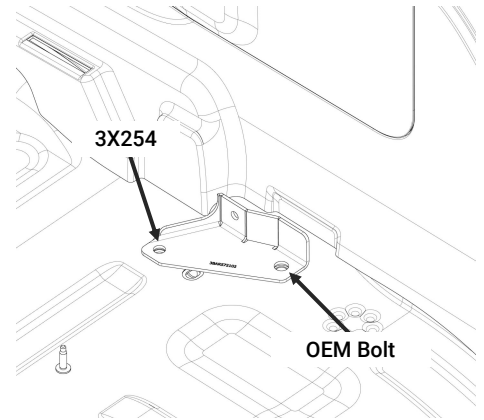

Figure 2
- C. Start the OEM bolt removed in step A. back into the hole it was removed from and start (1) of the M10 socket cap screws [3X254] into the corresponding hole in the floor (Figure 2).
- E. Repeat steps A. - D. for the passenger side using the Passenger Lower Barrier Bracket [3BAR572103] and another (1) M10 socket cap screw [3X254].